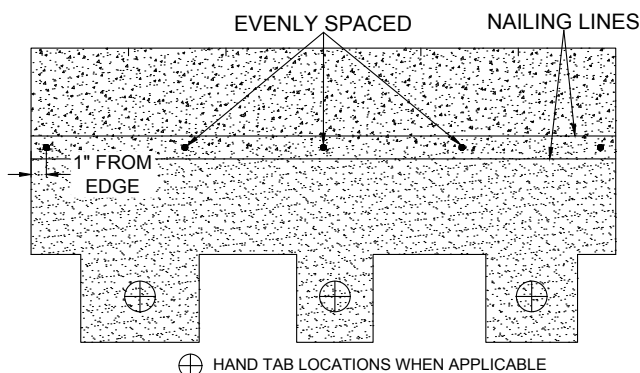

Figure 13 - Windsor®, 5-Nail Fastening Pattern and Hand-Tab Locations
Use five (5) fasteners for each full shingle, equally spaced across the shingle, and within the *high nailing area* designated by the parallel *nailing lines* (also called *paint lines*). Ensure the outer fasteners are placed 1" (25 mm) in from each edge. (See Figure 13)